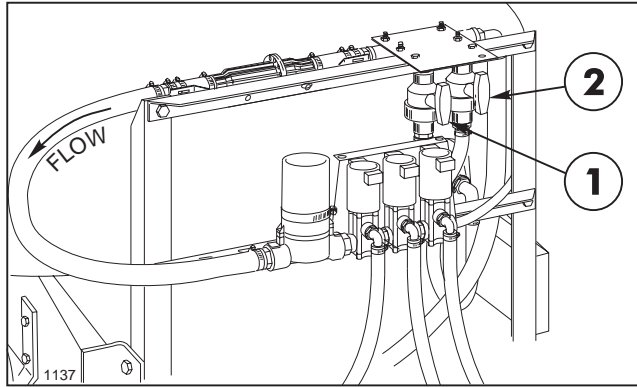

FIG. 5
12. Verify that the maximum pressure (shown on Pressure Gauge) and RATE can be achieved. Adjust pressure with ball valve in By-Pass Line to 80 p.s.i. **max.** See FIG. 5.